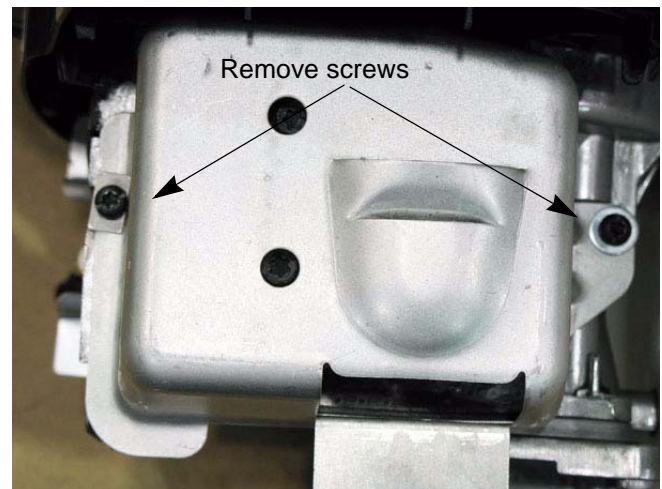

Figure 2.6
- 3d. Remove the two screws holding the heat shield on with a T-20 torx driver. See Figure 2.6.